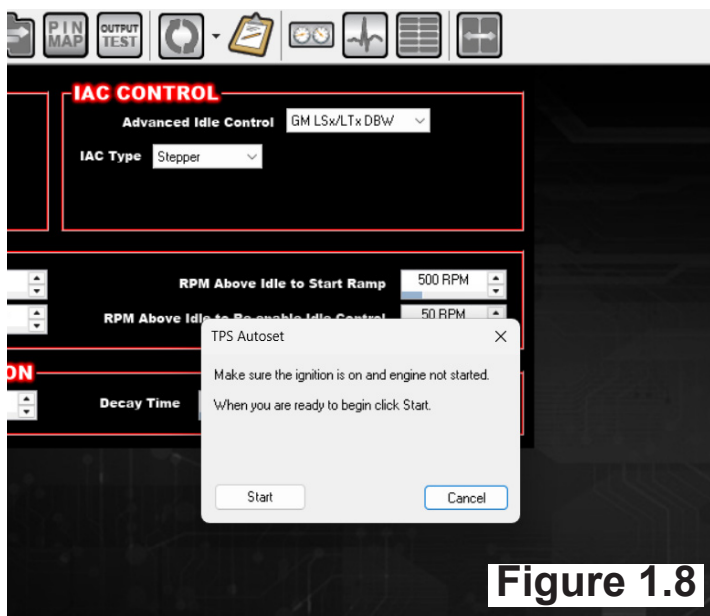

Figure 1.8
- 4.) Click ok, If prompted click start when the ignition is on and engine is not started. (Figure 1.8)